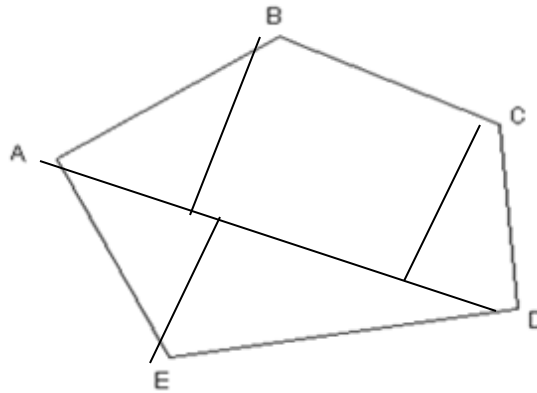

Fig 1: Survey of an Open Field (Closed Traverse)
- ABCDEF is the required closed traverse open field to be surveyed for calculating the area as shown in Fig 1. From the station A the length of all the opposite corners such as AC, AD and AE are measured with a chain and the longest distance is considered for lying off the main chain line. In this case AD is the longest and a chain line running from A to D is laid.